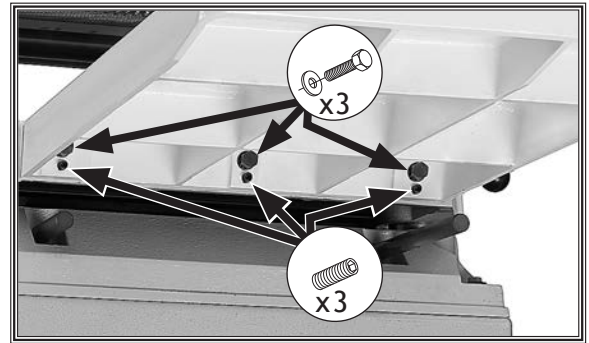

Figure 11. Extension wing mounting locations.
1. Attach each cast-iron extension wing to planer table with (3) M8-1.25 x 25 hex bolts and (3) 8mm flat washers (see **Figure 11**). Do not tighten hex bolts at this time.
2. Thread (3) M8-1.25 x 20 set screws into each extension wing at locations shown in **Figure 11**.